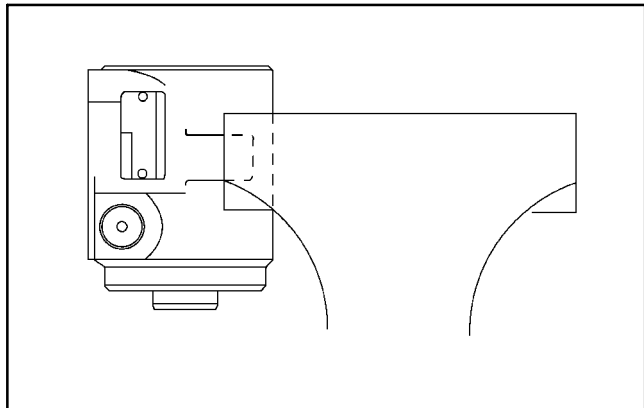

Figure 25
10. Clamp the housing in a vise (Fig. 25). Use just enough clamping force to hold the housing securely.